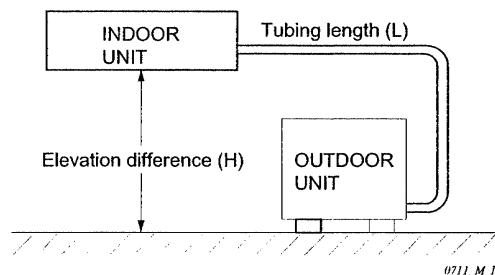

Fig. 1
- Install the unit within the maximum elevation difference above or below the outdoor unit and within a total tubing length from the outdoor unit as detailed in Table 1 and Fig. 1 on the previous page.